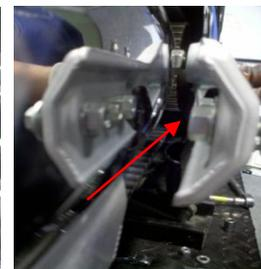

Fig 1.2
8. Using a 14mm socket, loosen and remove bolts holding the canister to the mounting bracket. **Fig 1.2**